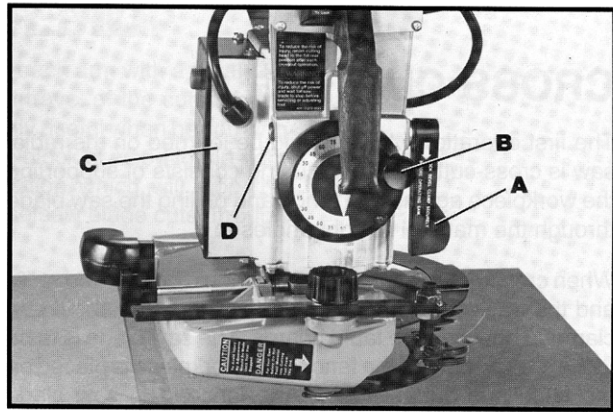

Fig. 63
1. Loosen bevel clamp handle (A), release bevel index knob (B) and turn motor (C) to vertical position as shown in Fig. 63.
2. Loosen bevel clamp handle (A) Fig. 63, several turns, until hex head of screw (D) can be pushed out of hex shaped recess in yoke.
3. Turn screw (D) Fig. 63, one or two flats of the hex head and push it back into hex shaped recess in yoke.
4. Tighten bevel clamp handle (A) Fig. 63. **NOTE:** Screw is left hand thread - turn clamp handle counterclockwise to tighten.